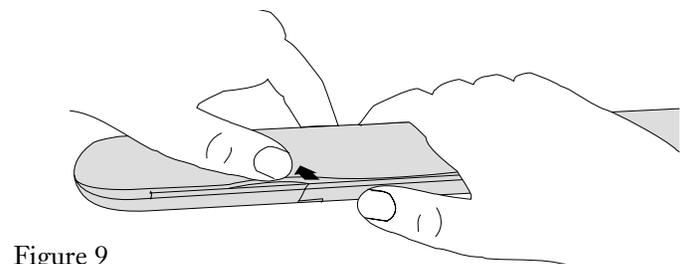

Figure 9
5.5 Carefully open the grip by pressing down on the overlapping closure along the length of the grip (Figure 9)....